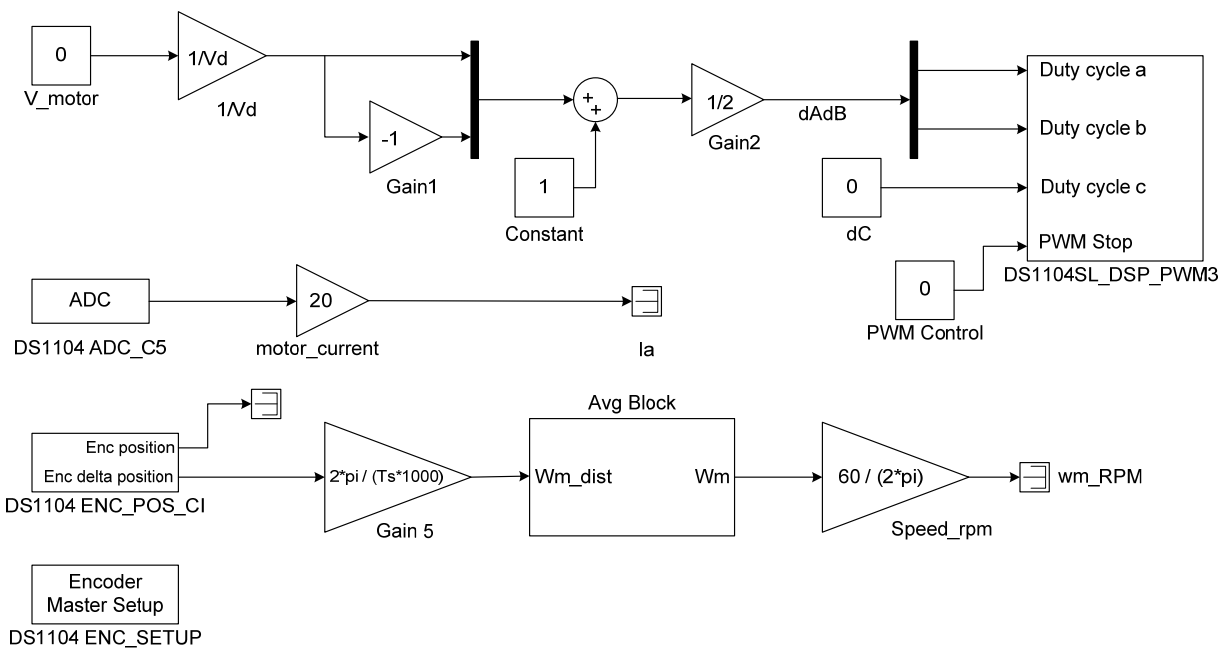

Figure 3.1: Real time Model for Open-Loop Speed Control of a DC Motor.
- Use the model for the two-pole switch-mode converter (Fig 3.1) OR download the file ‘two_pole.mdl’ from online.
For measuring the current, **Channel 5** of the A/D converter (**ADCH5**) on CP 1104 will be used. Remember that the data have to be scaled by a factor of 10. In addition, the current sensor outputs 1V for 2 amps of current; therefore it actually needs to be scaled by 20 (shown in Fig. 3.1).
- Download the file ‘Avg_Block.mdl’ and copy it to your folder. Connect it as shown in Fig.3.1. The output of this block is the average speed in radians/sec.
Your real-time model is now ready and should look like in Fig 3.1.